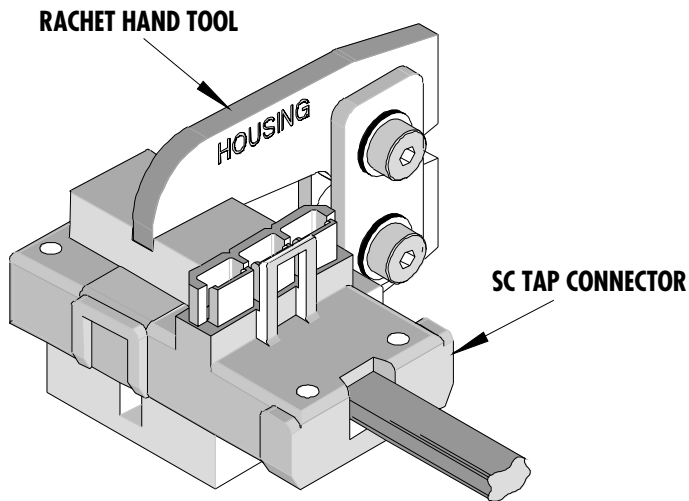

Figure 7
8. For all Tap Connectors insert the connector as shown in Figure 7, then squeeze the handle until both latches are closed. Open and remove the terminated connector assembly.